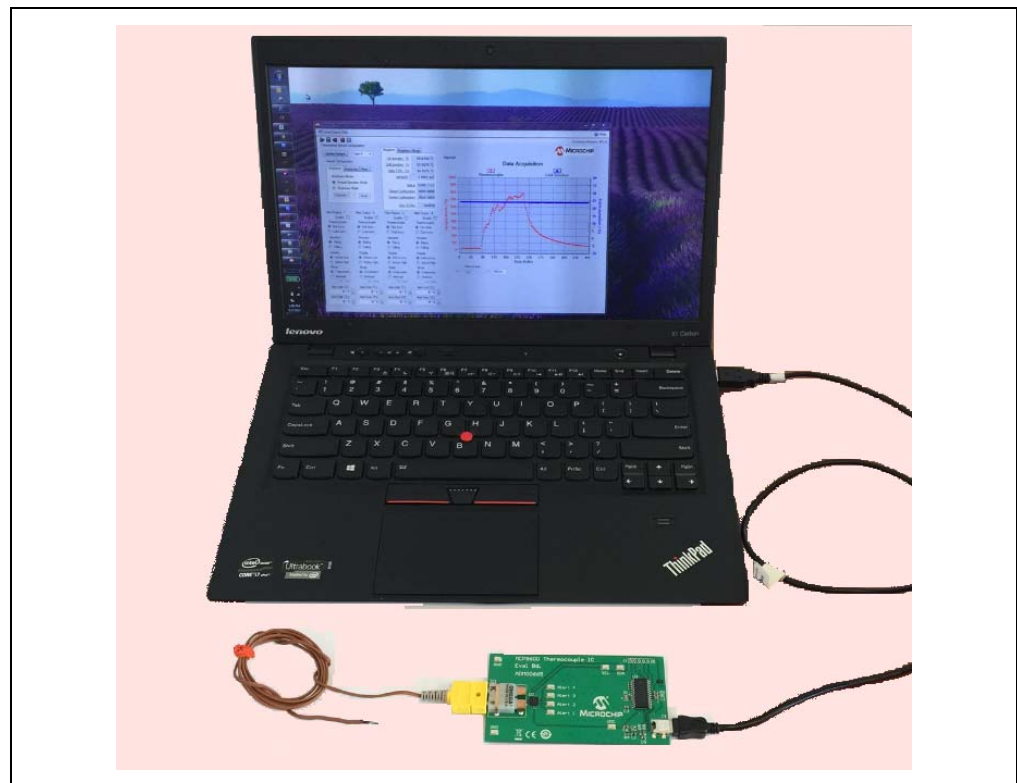

FIGURE 2-1: MCP9600 Thermocouple IC Evaluation Board Setup.
The Personal Computer (PC) shown in Figure 2-1 needs to run on Windows® 98 SE or later. It provides a convenient interface for the user, communicates with the board and provides power through the USB connection.